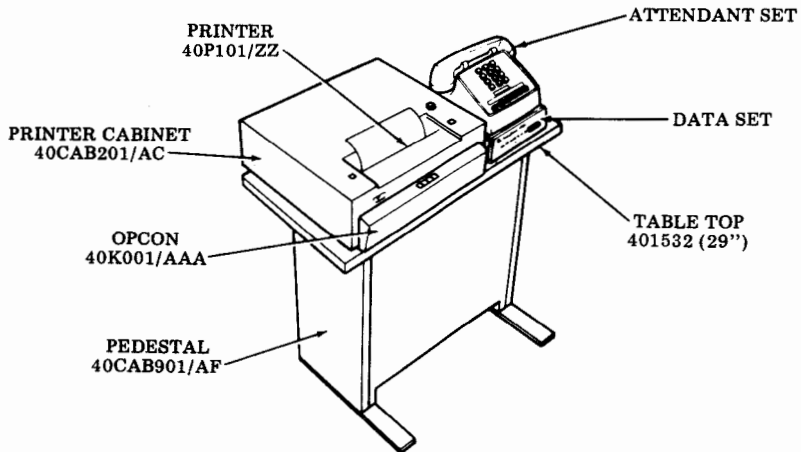

Fig. 11
3.10 Receive-Only Printer (ROP) Station — Friction Feed (Fig. 11)